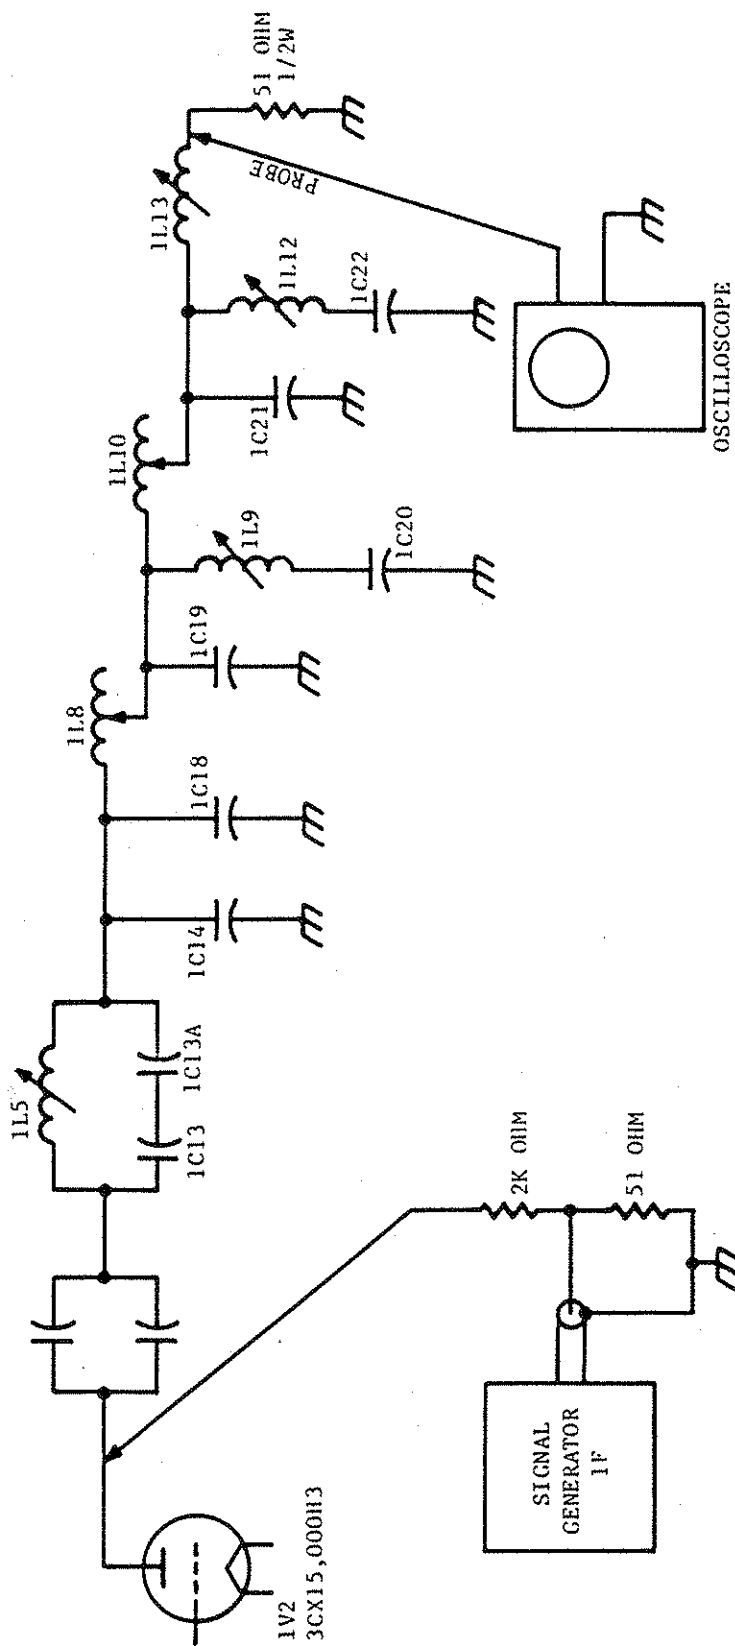

Figure 5-6. Ratio of Load Voltage to Plate Voltage Test
- k. Move the oscilloscope probe to a position to read the voltage at the 51-ohm 1/2-watt resistor connected to the transmitter output. Refer to figure 5-6. The oscilloscope reading at this point should be 0.78 major divisions if the loading is correct, if so no further loading adjustment is needed.
- b. Place a short across the 51-ohm 1/2-watt resistor installed at the transmitter output. Refer to figure 5-6. With the signal generator set at the carrier frequency (1f), the peak-to-peak indication on the oscilloscope should be 5.5 major divisions.